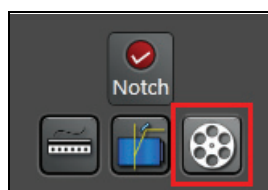

Figure 125: Fluorifier Disc button in Beam Path Settings
With the **Show Fluorifier Settings** button (**Figure 125**), you can call up the **Fluorifier Disc Settings** dialog to select a barrier filter or set a polarization angle.
1. In **Beam Path Settings**, click on the **Fluorifier Disc** button (Figure 125).